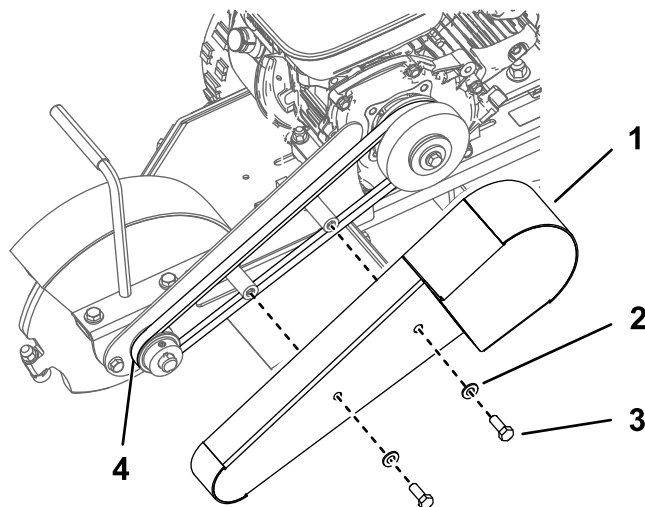

Figure 1
1. Remove the 2 bolts, 2 washers, and belt guard (Figure 1).
4. Remove the belt (Figure 1).